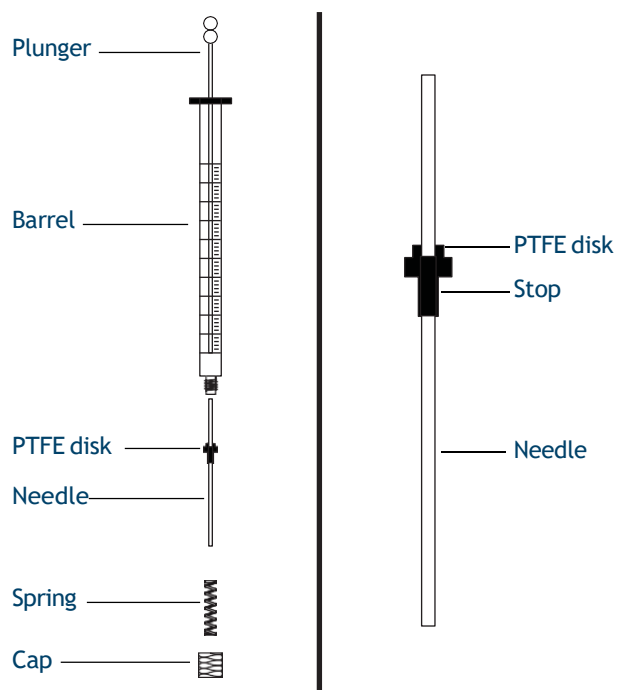

Figure 51. Syringe parts
To insert a needle into a syringe barrel (Figure 51):
- 2 Make sure the needle has a PTFE disk (Figure 51). If the syringe barrel does not have the PTFE disk, use the instructions in the syringe box to wrap the needle yourself.